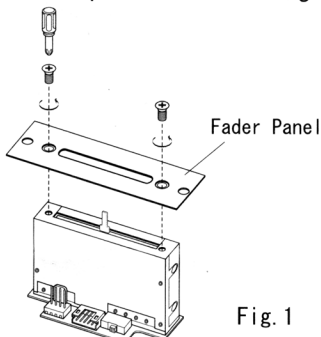

Fig. 1
- ① Detach the fader unit as it is shown on the mixers owners' manual.
- ② Unscrew the 2 screws on each end with a screw driver and remove the fader panel as shown in Fig.1